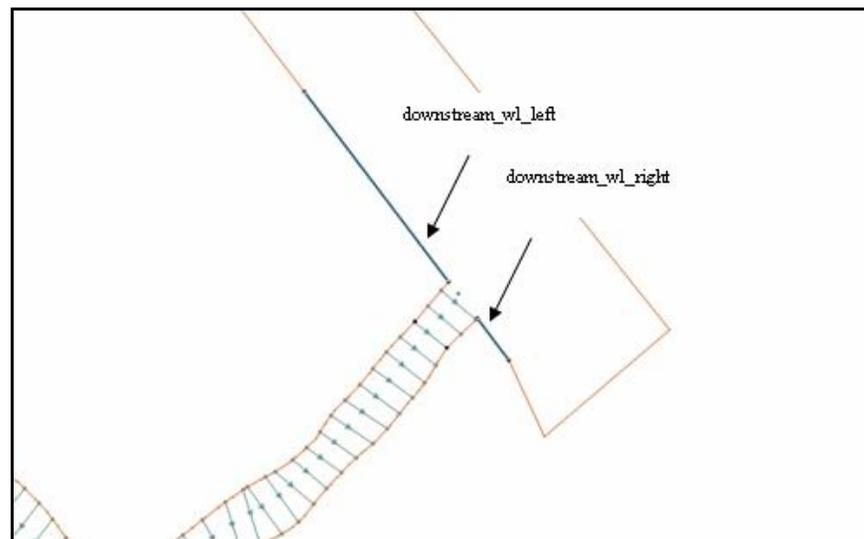

Figure 13 Location of downstream boundary condition arcs
2. Using the **Select Feature Arc**  tool while pressing the *Shift* key, select the two arcs along the downstream side of the 2D domain as shown in Figure 13.
4. Select “Wse vs Time (HT)” from the *Type* drop-down.
Rename the downstream arcs (Figure 13) by doing the following: